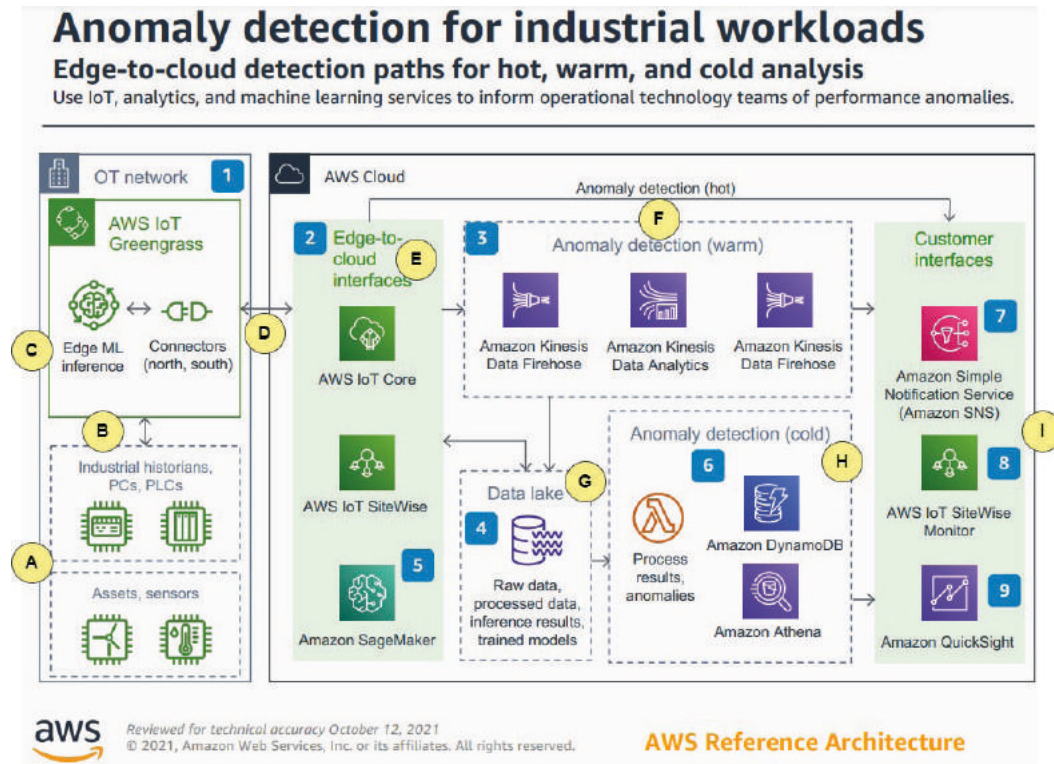

Figure 10.3 – AWS IoT reference architecture
We have selected an IoT reference architecture that is used in industrial IoT. The top IoT use cases for the industrial sector are typically related to process improvement and automation, predictive maintenance, and asset tracking and monitoring. The reference architecture that we will use in this chapter – as shown in *Figure 10.3* – is related to an anomaly detection use case, which can be classified under the predictive maintenance use case:
Let's walk through this architecture (note: the letters in the circles in *Figure 10.3* match the points that follow):
- C. The AWS implementation of IoT Edge software, as explained in *Chapter 3, The "T" in IoT – Devices and Edge*, is the **AWS Greengrass service**, which has many features. But in *Figure 10.3*, two features are used in that architecture, **connectors** and **ML inference** at the edge.